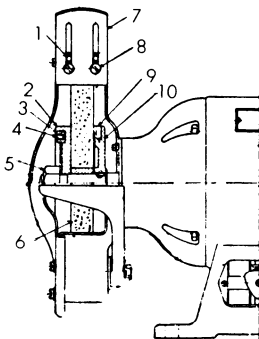

Fig. 7
1. When mounting or demounting a grinding wheel, insert a rod through the shaft revolution stop hole in the wheel washer (as shown in Fig. 7) to stop shaft revolution, and turn the grinding wheel clamping nut.
Adjustment is made by shifting the balance weight located on the balance washer (See to Fig. 7). By loosening a cap screw, the balance weight can be shifted and adjusted through the following procedures;